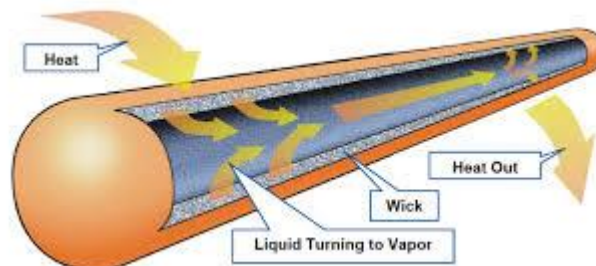

Figure 21. Heat Pipes
- **Description:** A highly efficient method of heat transport using the phase change of a working fluid (evaporation and condensation). Figure 21